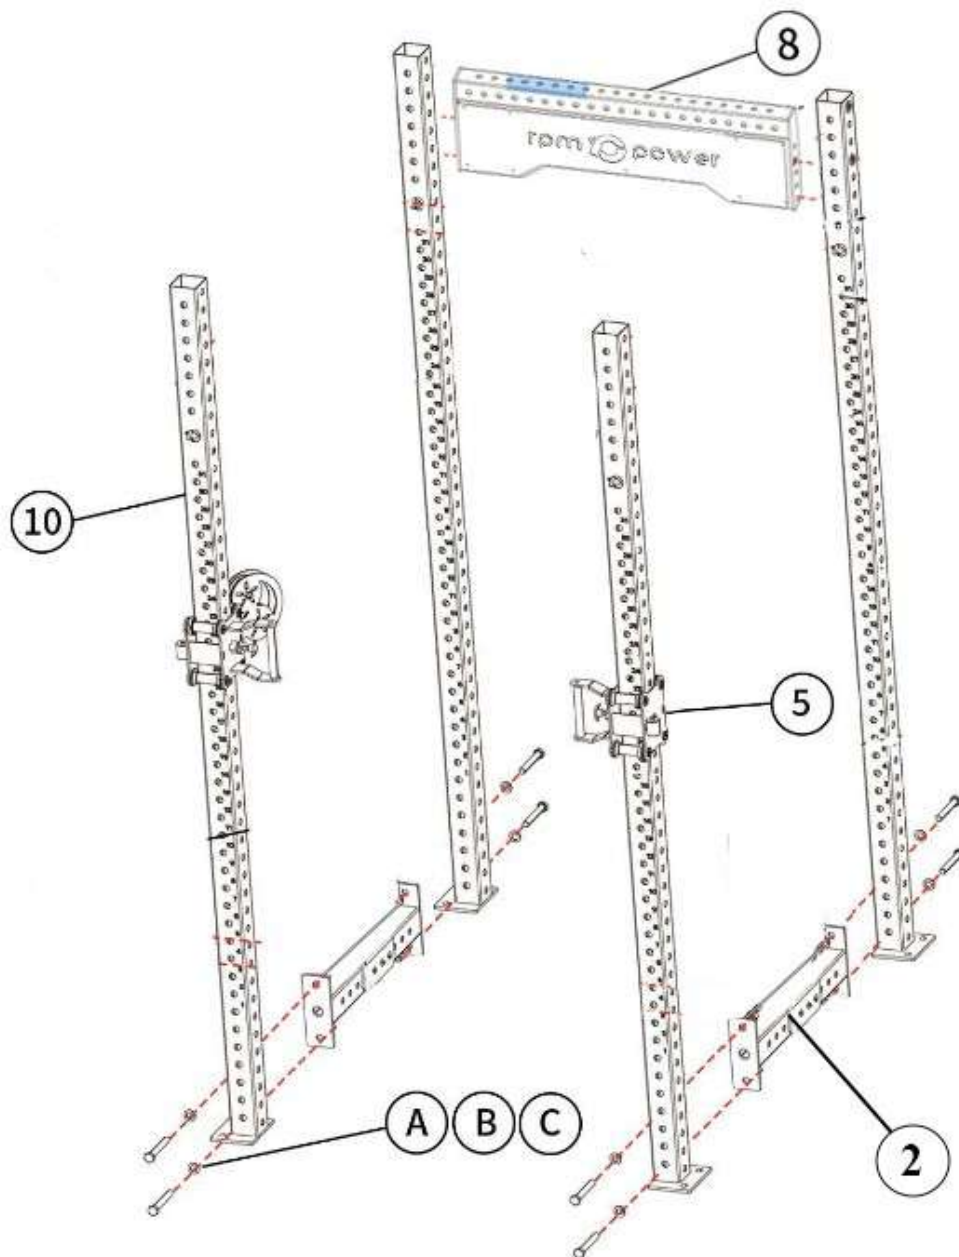

FIG. 3A
1. Gather the two remaining rear upright columns (10) and connect these together with the upper rear crossbeam (8). Lay these parts on the floor.
2. Secure the side crossbeam (2) to the lower holes of each upright column (10). Secure in place with bolts, nuts and washers (A/B/C) but don't tighten fully.
4. Place the completed front half of the main frame from Section 2 in front of this and connect it to the other side of the side crossbeams (2). **See FIG. 3A.**